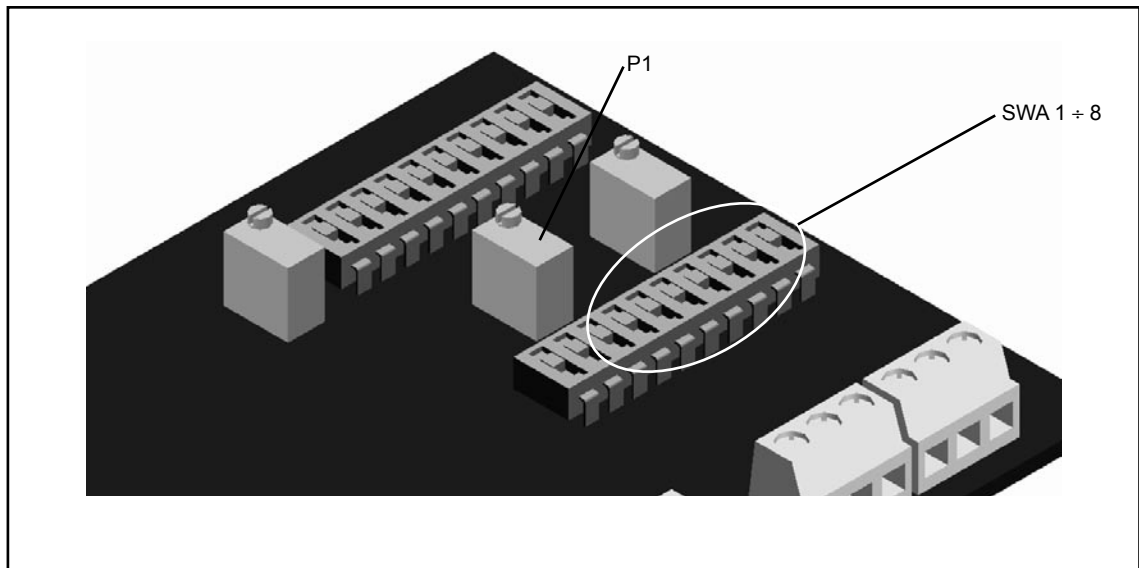

Fig. 5-9 : SWA 1 ÷ 8 micro-switch and P1 potentiometer locations on the circuit board.
- Make sure that the microswitches SWA 1 to 8 are on position Off (refer to figure 5-9 for the micro-switch location on the circuit board).